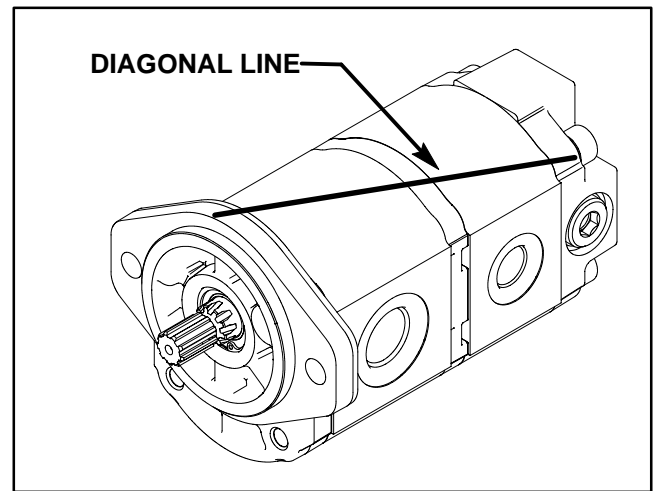

Figure 47
2. Use a marker to make a **diagonal** line across the gear pump for assembly purposes (Fig. 47).